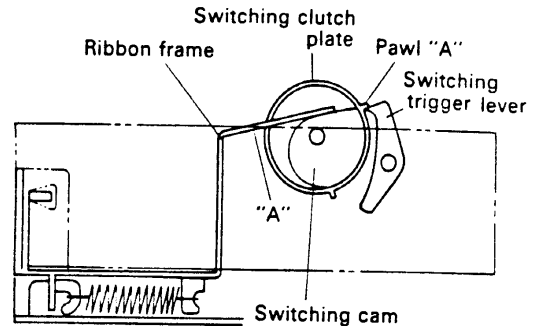
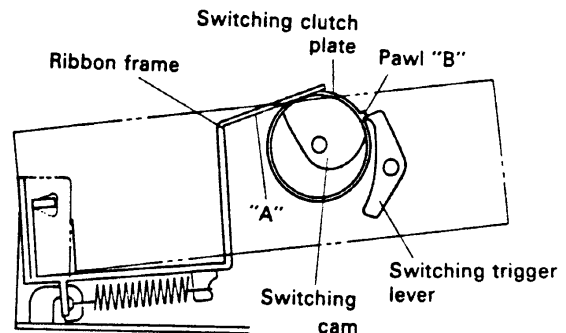
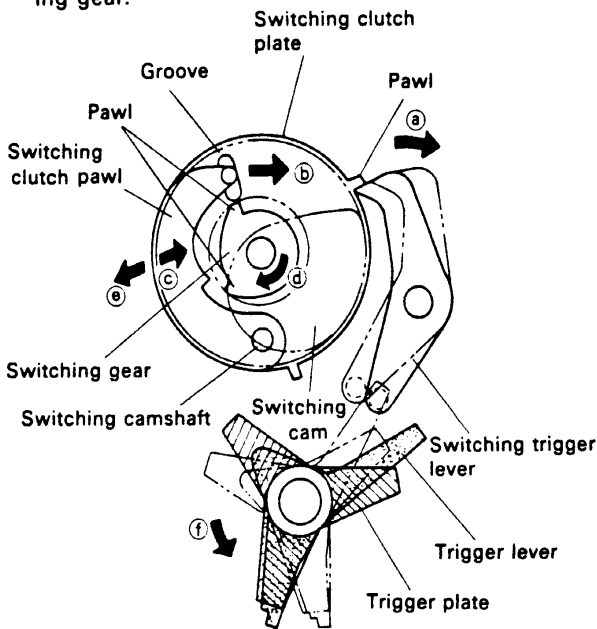

Fig. 1-23. Black Printing Status
Fig. 1-24. Red Printing Status
Fig. 1-26. Operation of Switching Clutch
Black Printing Status (see Fig. 1-23)
Red Printing Status (see Fig. 1-24)
Operation of Switching Clutch (see Fig. 1-26)
Initialization (see Figs. 1-23, 24, and 1-26)
- ① When the trigger coil is charged with the prescribed pulse (see "1. Initialization" of the "Model-262 Operating Description," on page 1-14), the trigger plate is drawn toward the trigger coil, adheres to the trigger yoke holder of the carrier driving cam ass'y, then rotates in the \blacktriangleright arrow $\textcircled{1}$ direction shown in Fig. 1-26. The rotating force is also transmitted to the trigger lever which is combined with the trigger plate so the trigger lever is rotated in the \blacktriangleright arrow $\textcircled{1}$ direction of Fig. 1-26.
- ② Rotation of the trigger lever causes the switching trigger lever to rotate in the \blacktriangleright arrow \textcircled{a} direction of Fig. 1-26.
- ③ Rotation of the trigger lever disengages it from the switching clutch plate so that the switching clutch plate and switching cam rotate in the \blacktriangleright arrow \textcircled{d} direction.
- ④ When the trigger coil is recharged at the moment that the switching makes a 50% rotation after the initial charging, because the switching clutch plate continues rotating if the ribbon switching mechanism was in black printing status (Fig. 1-23), the mechanism will not operate despite operation of the switching trigger lever. If initially in the red printing status (Fig. 1-24), the switching clutch plate will be stopped by the switching trigger lever and the black printing status (Fig. 1-23) will be assumed, so the switching trigger lever rotates in the \blacktriangleright arrow \textcircled{a} direction, it becomes disengaged from the switching clutch plate, then the switching clutch plate and switching cam begin rotating once more.
- ⑤ When the switching gear rotates further and the trigger coil is charged with the prescribed pulse, the switching trigger lever rotates. Consequently, the switching trigger lever becomes disengaged from the switching clutch plate, the switching cam rotates, and the ribbon switching mechanism switches from the red status to black status then assumes standby mode.
(see Figs. 1-23, 1-24, 1-25, and 1-26)
"Model-262 Operating Description," on page 1-15), the switching trigger lever rotates and becomes disengaged from the switching clutch plate, and the switching cam rotates (Fig. 1-26). Next, if the mechanism either switches to red status (Fig. 1-24) if it was in black status (Fig. 1-23), or switches to black status (Fig. 1-23) if it was in red status (Fig. 1-24).